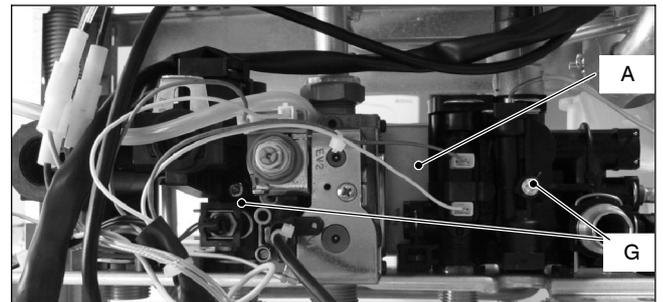

Fig. 4
The d.h.w. heat exchanger A in Fig. 1 and Fig. 4 allows the instantaneous transfer of heat from the primary hydraulic circuit to the water destined for d.h.w. use.
- 6 Completely unscrew the two Allen key screws G (Fig. 4) which hold the exchanger to the plastic groups.